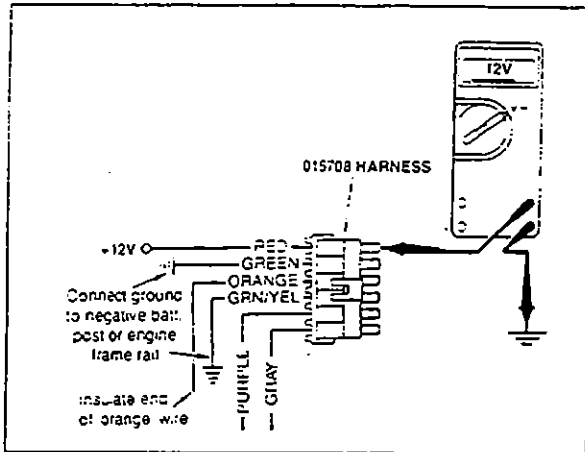

Fig. 1.1.20
**Correction:** With the ignition switch on, disconnect the P/N 015708 harness from the control module connector. Measure the voltage at the RED wire. Place the positive probe (+) of the voltmeter on the terminal of the RED wire and the negative probe (-) to ground. The voltmeter should read +12 VDC (Fig. 1.1.20). If this condition is not present, check that system is energized and check power supply.